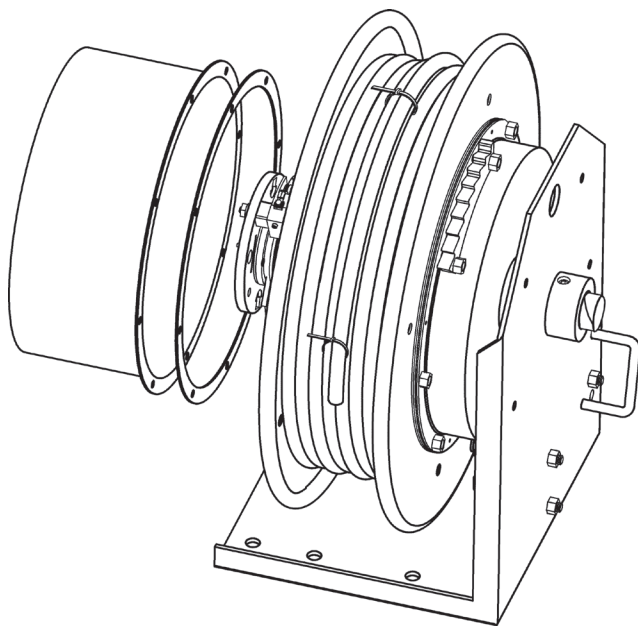

Figure 6-2
5. Remove the Slip Ring Cover, Gasket, and Slip Ring as per Slip Ring Replacement Section. **See Figure 6-2.**